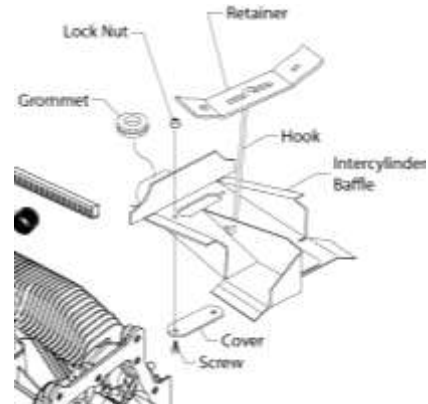

Figure 3
- (1) Examine the intercylinder baffle (Figure 3) and surrounding components for damage, holes, cracks, wear, deterioration, and incorrect position. Replace a damaged, worn, cracked or deteriorated intercylinder baffle per the “Intercylinder Baffle Removal” and Intercylinder Baffle Installation” procedures in this chapter.
- (2) Tighten any loose intercylinder baffle fasteners per the latest revision of the *Service Table of Limits SSP-1776*.
- (3) Correct the intercylinder baffle position as necessary.
- (4) Record results of this inspection and any corrective action taken on the Visual Inspection Checklist in Chapter 05-20.